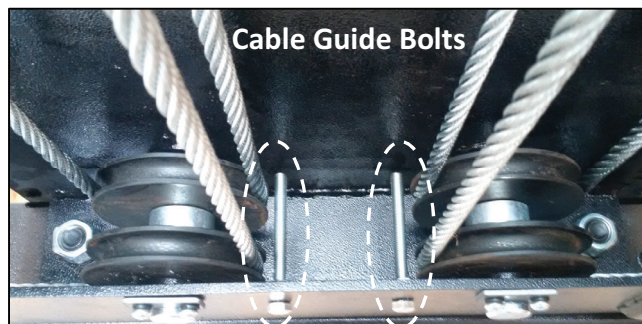

Fig. 7
18. Install Cable Guide Bolts & Nuts (#21B) to the underside of the Mainside Runway at each end, as illustrated in Fig. 7. Four Guide Bolts will be installed at one end and two at the other end.